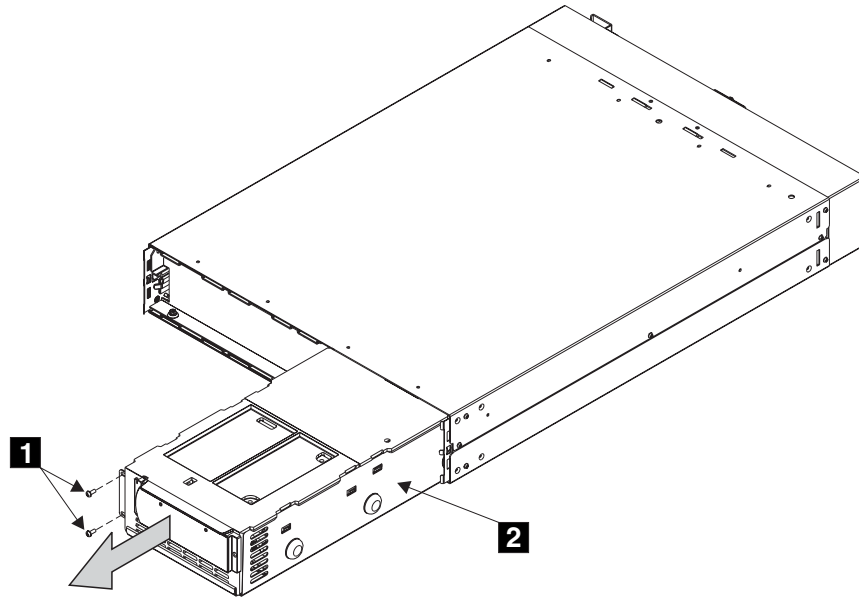

Figure 113. Removing the electronics unit from the uninterruptible power supply
4. Remove the two screws, **1** in Figure 113 on page 171.